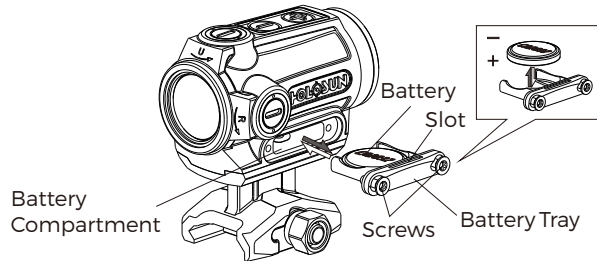

Fig 4
2. Battery replacement. (See Fig 4)